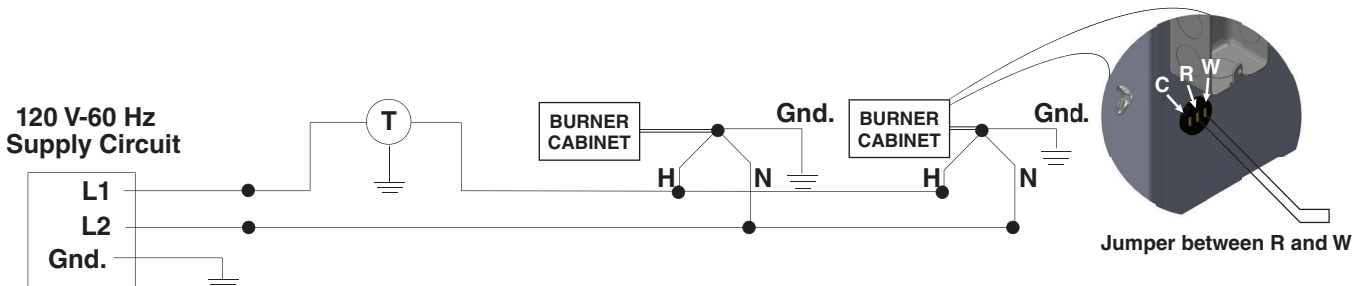
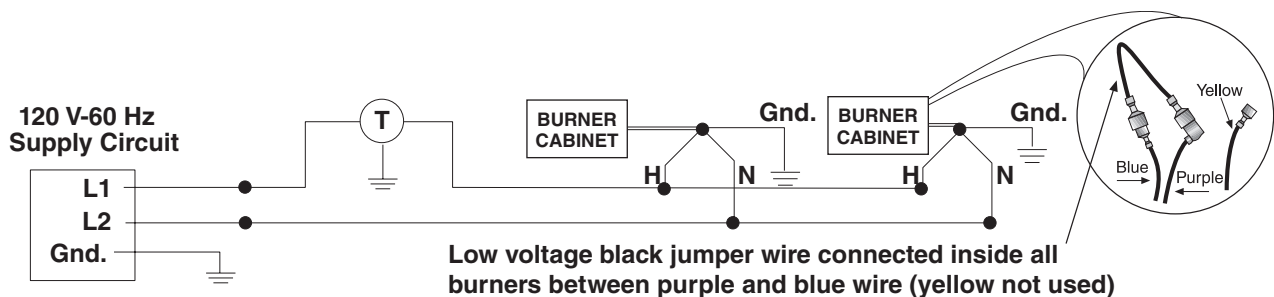

Figure 31. Model VZ Line Voltage Thermostat Wiring
Figure 32. Model VZH Line Voltage Thermostat Wiring
- **Line voltage thermostat:** For models VZ and VZH, install the line voltage thermostat (maximum five burner cabinets per thermostat) in accordance with the thermostat manufacturer's instructions and connect wiring in accordance with Figure 31 or Figure 32.